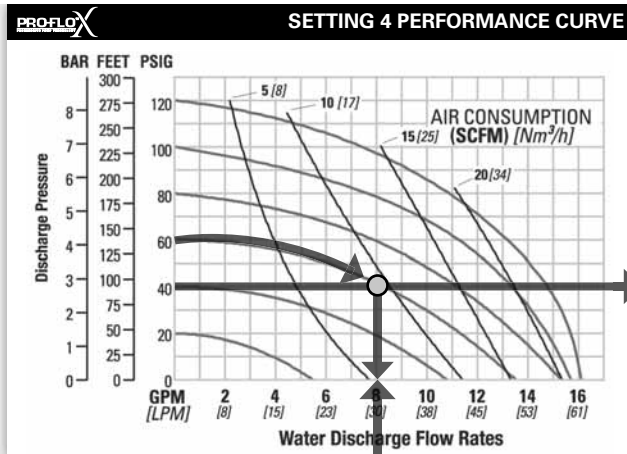

Figure 1
**Step 1: Identifying performance at setting 4.** Locate the curve that represents the flow rate of the pump with 4.1 bar (60 psig) air inlet pressure. Mark the point where this curve crosses the horizontal line representing 2.8 bar (40 psig) discharge pressure. (Figure 1). After locating your performance point on the flow curve, draw a vertical line downward until reaching the bottom scale on the chart. Identify the flow rate (in this case, 8.2 gpm). Observe location of performance point relative to air consumption curves and approximate air consumption value (in this case, 9.8 scfm).